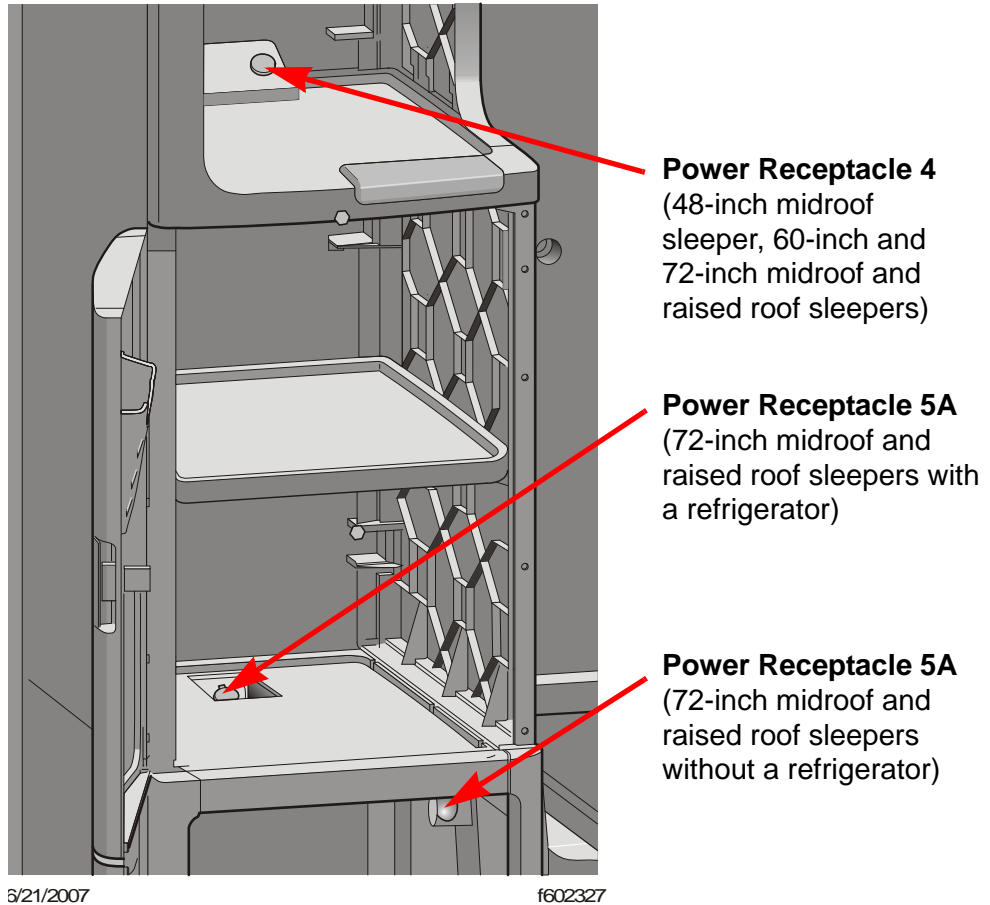

Figure 7-15: Right-Side Cabinet Power Receptacles
- DC power receptacle 4, battery, right-side cabinet in 48-inch midroof sleeper, and in 60-inch and 72-inch midroof and raised roof sleepers (**Figure 7-15**)
- DC power receptacle 5A, battery, right-side cabinet in 72-inch midroof and raised roof sleepers (**Figure 7-15**)